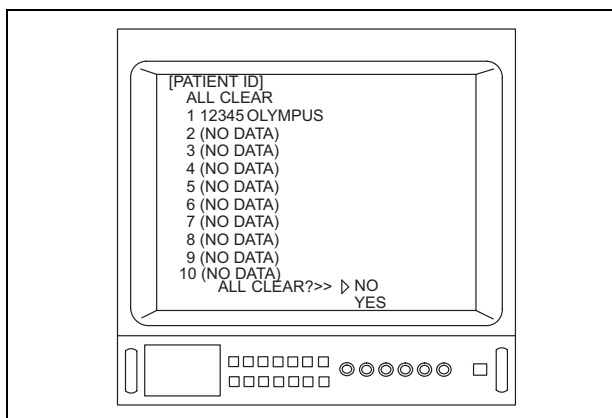

Figure 5.50
5. Depress the menu switch “↵” or the “Enter” key on the keyboard. Then, the menu shown in Figure 5.50 is displayed on the video monitor.